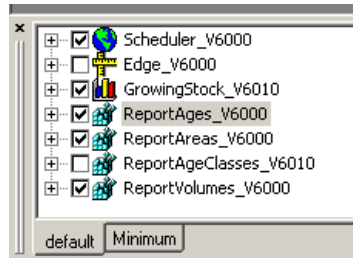

Figure 9: Configuration window with active and inactive module shown
- 2.2.1.1 Select the *Configuration* icon. The default *Configuration* window should be similar to Figure 9. The check marks indicate the modules that are active. To activate or deactivate a module, uncheck the box to the left of the module names. Any changes made are automatically saved.